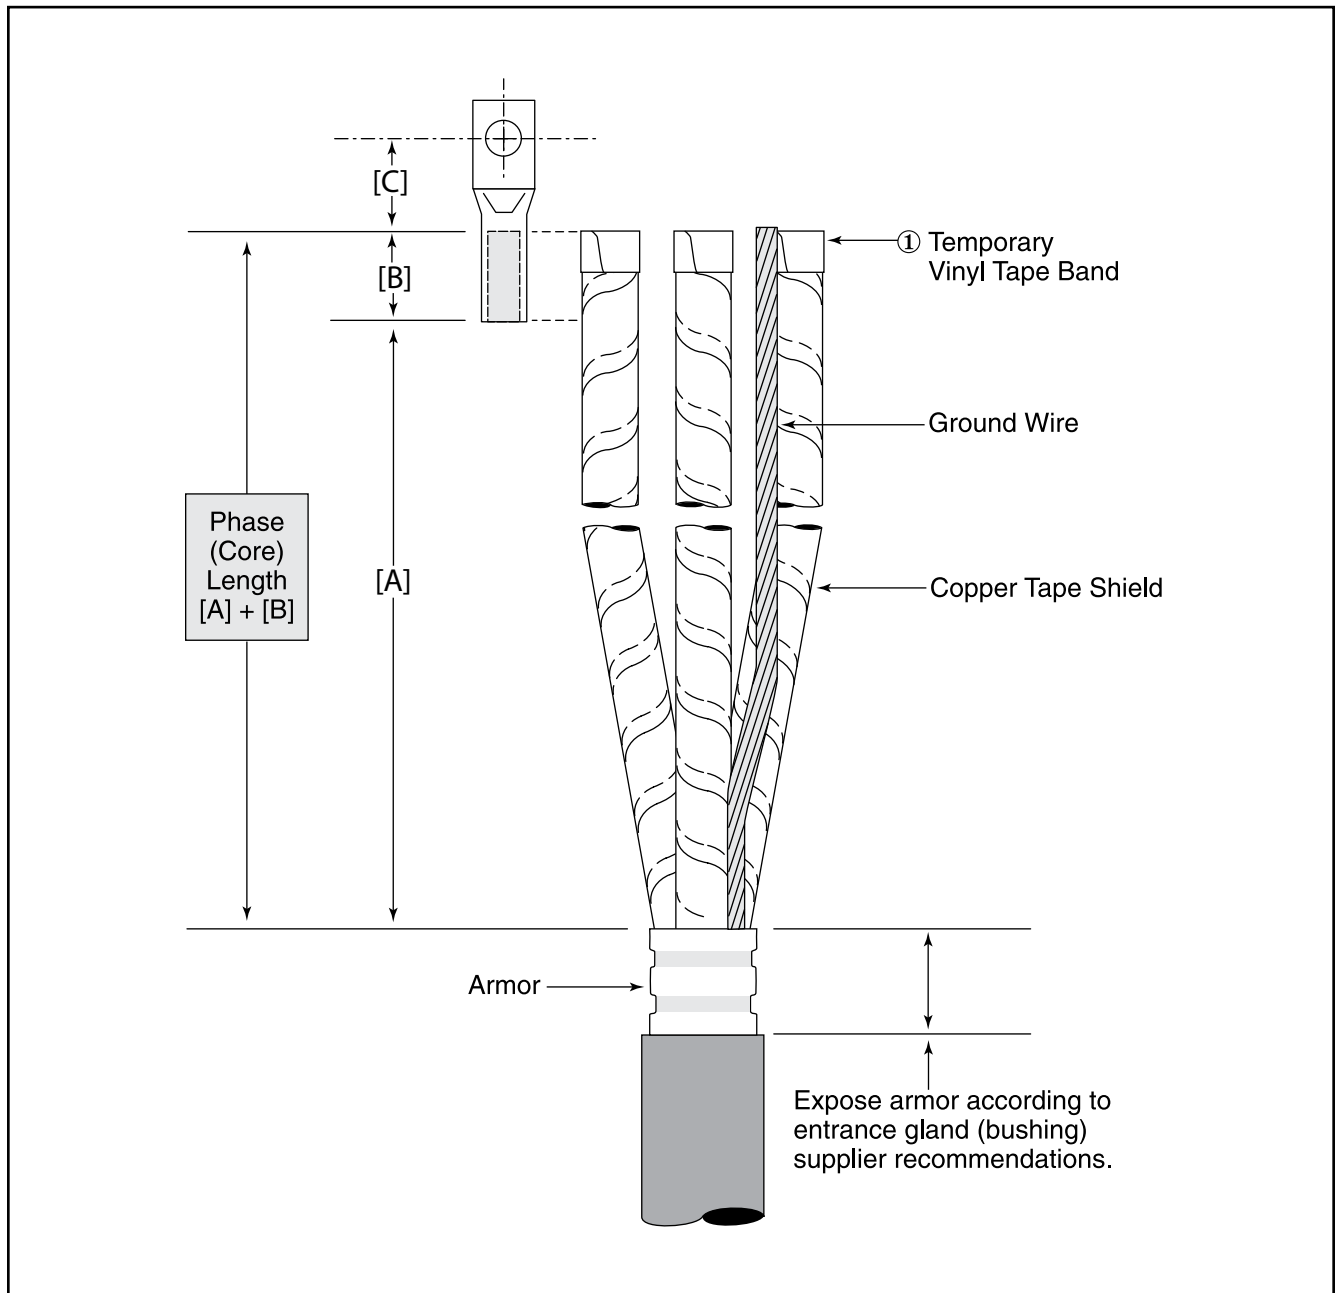

Figure 1
- 1.1 Determine phase (core) length required for correct phase spacing and bolted terminal lug connections ( $[A] + [B]$  Figure 1, according to the longest phase to be connected). Allow for dimension  $[C]$  as needed.
- 1.3 Remove bedding (inner sheath), if present, and any remaining core fillers. Secure each copper tape shield end with a temporary band of vinyl tape (① Figure 1).